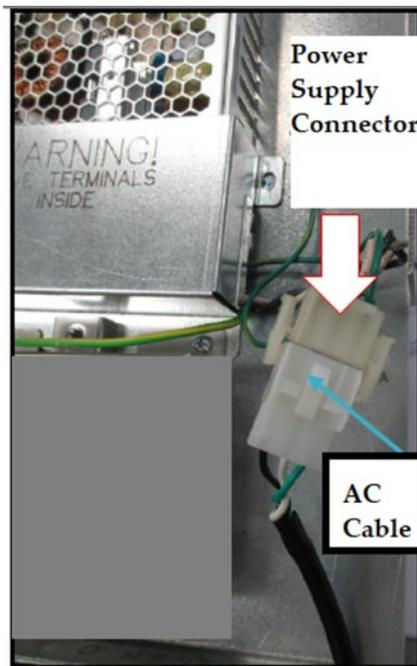

Figure 256
24) Stow excess cable loops behind the APC module and above the printer. See Figure 256 below.